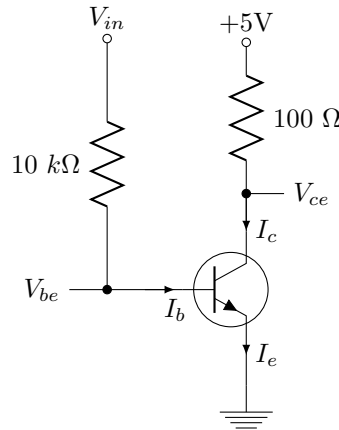

Figure 4: The test circuit that we will use to characterise the 2N3904 transistor.  $V_{be}$  and  $V_{ce}$  represent voltages to be measured relative to ground.
We will use the *NPN*-type 2N3904 transistor, which consists of a layer of *P*-doped semiconductor (the “base”) sandwiched between two *N*-doped layers (the “collector” and “emitter”). To investigate the properties of this transistor, we will construct the circuit shown in figure 4.
- (8) Accurately determine the resistance of the 100  $\Omega$  and 10 k $\Omega$  resistors that you will use to build the circuit shown in figure 4, as well as the voltage of the +5V power supply.
- (9) Build the circuit shown in figure 4, using the positive terminal of the variable power supply as the input  $V_{in}$ . The variable power supply (VPS) control can be found in the instrument launcher. For values of  $V_{in}$  ranging from 0V to 12V, measure and record  $V_{in}$ ,  $V_{be}$ , and  $V_{ce}$ . You will need to take more data points near  $V_{in} = 1$ V than near  $V_{in} = 0$ V or  $V_{in} = 12$ V to ensure your plots show sufficient detail.
- (10) Use this data to prepare plots of (a)  $I_b$  vs  $V_{be}$ , (b)  $I_c$  vs  $I_b$ , and (c)  $V_{ce}$  vs  $I_b$ . Ensure you have enough points to observe critical features in all of your plots.